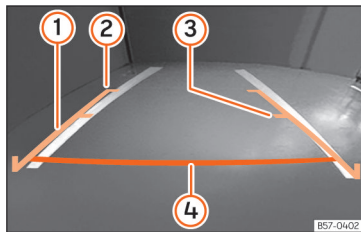

Fig. 211 Display on the Infotainment system screen.: guide lines.
- Vehicle load modifies the representation of the guide lines »» Fig. 211. The width represented by the lines decreases with vehicle load. Pay special attention to the surroundings when the inside of the vehicle of the luggage compartment are loaded.
Meaning of the orientation lines »» Fig. 211